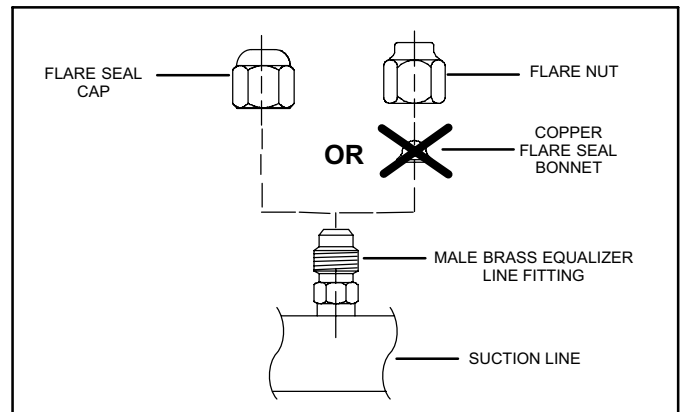

Figure 22. Copper Flare Seal Bonnet Removal
6. Remove and discard either the flare seal cap or flare nut with copper flare seal bonnet from the equalizer line port on the suction line as illustrated in figure 22.